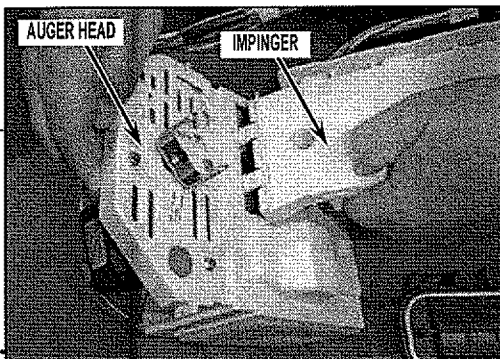

FIGURE 10
12. Remove impinger from auger head and discard old impinger, keep auger head. See Figure 10.